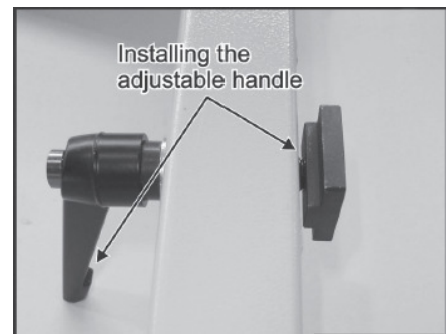

Fig. 14
1. Thread the M12-1.75 x 55 adjustable handle with a 12mm flat washer through the crosscut table and into a M12-1.75 T-nut (Fig. 14)